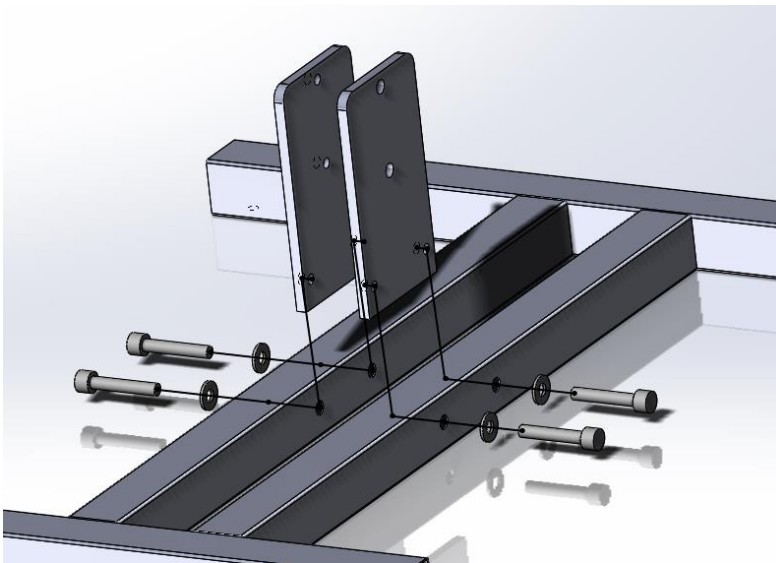

Figure 3
1. Fasten the base and the 2 mounting plates using 2ea 7/16-14 x 2.5 Socket Head Cap Screw and 2ea 7/16 Black Hardened Washer for each mounting plate, as shown in Figure 3.